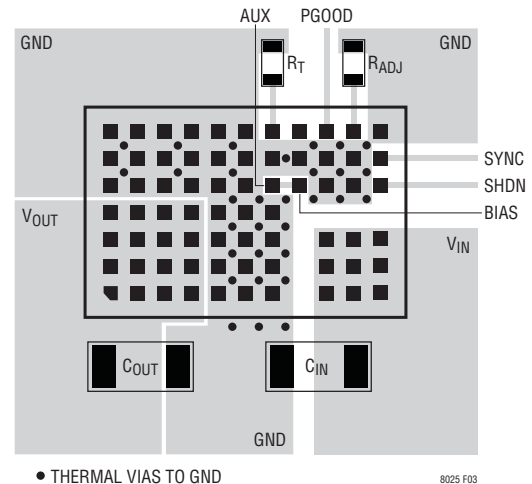

Figure 3. Layout Showing Suggested External Components, GND Plane and Thermal ViAs.
high level of integration, you may fail to achieve specified operation with a haphazard or poor layout. See Figure 3 for a suggested layout. Ensure that the grounding and heatsinking are acceptable.
6. For good heatsinking, use vias to connect the GND copper area to the board's internal ground planes. Liberally distribute these GND vias to provide both a good ground connection and thermal path to the internal planes of the printed circuit board. Pay attention to the location and density of the thermal vias in Figure 3. The LTM8025 can benefit from the heat-sinking afforded by vias that connect to internal GND planes at these locations, due to their proximity to internal power handling components. The optimum number of thermal vias depends upon the printed circuit board design. For example, a board